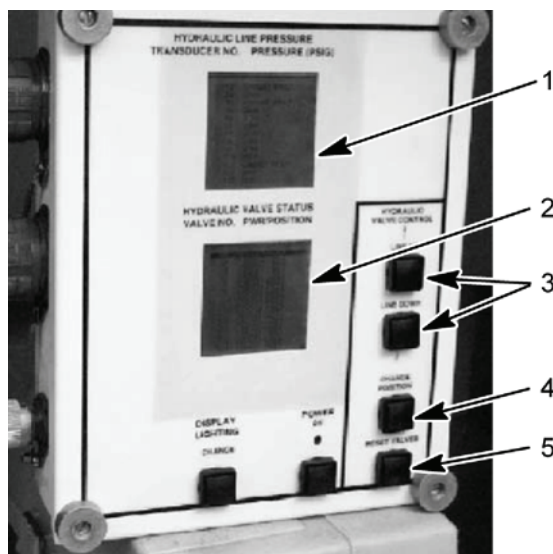

Figure 12. HDC Control Box
- Reset all HDC solenoid valves by selecting the RESET VALVES button (Figure 12, item 5) on the HDC control box.
- Port 3R RELIEF VALVE: Using LINE UP or LINE DOWN button (Figure 12, item 3), select V15 on the HDC display (Figure 12, item 2). Close V15 on the HDC display (Figure 12, item 2) by selecting the CHANGE POSITION button (Figure 12, item 4) on the HDC control box.
- Start engine and have assistant move SPRUNG/UNSPRUNG lever to UNSPRUNG and SUSPENSION CONTROL lever to RAISE. Read transducer T-1 hydraulic pressure on the HDC display (Figure 12, item 1).
- Port 3R relief valve: Using LINE UP or LINE DOWN button (Figure 12, item 3), select V15 on the HDC display (Figure 12, item 2). Open V15 on the HDC display (Figure 12, item 2) by selecting the CHANGE POSITION button (Figure 12, item 4) on the HDC control box.